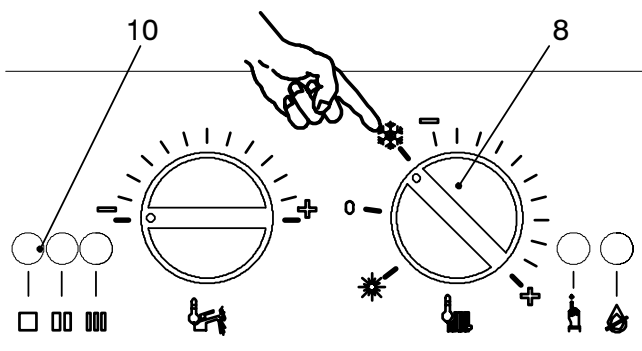
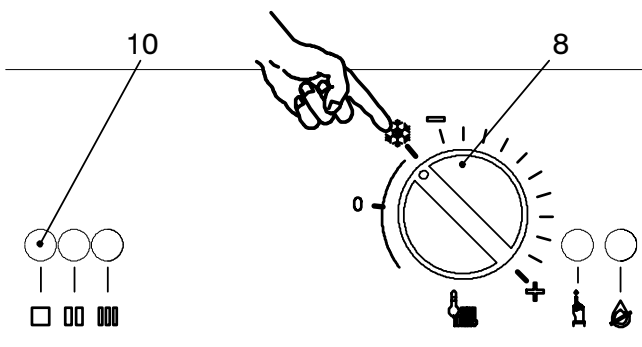

Fig. 2.4
Fig. 2.5
- 2 Turn on the electricity supply to the boiler, switching on the fused spur isolation switch. The appliance operation light 10 (Fig. 2.4) will flash every 4 seconds (stand-by condition).
- 3 If the boiler is to be used for c.h. and d.h.w position the function selector 8 as in Fig. 2.4. (combi) or in Fig. 2.5 (c.h. only). The appliance operation light 10 will flash every 2 seconds (operating boiler).